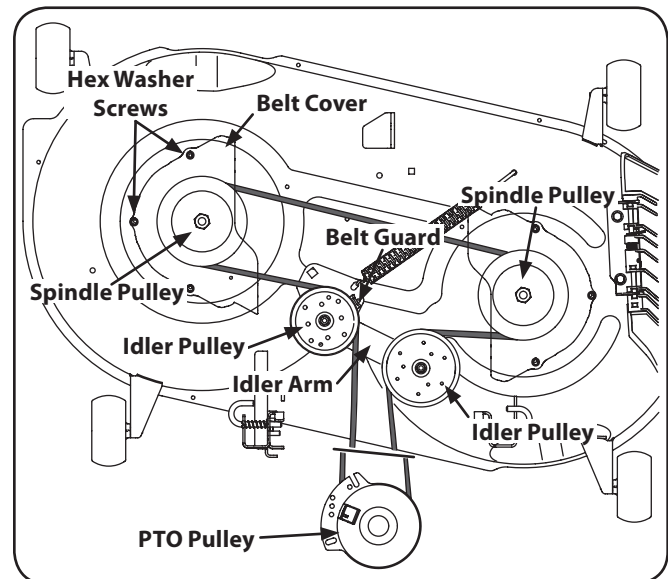

Figure 7-10
2. Remove the hex washer screws securing the belt covers to the deck. See Figure 7-10.
5. Install the new belt around the spindle pulleys as shown and reinstall the belt covers. See Figure 7-10.